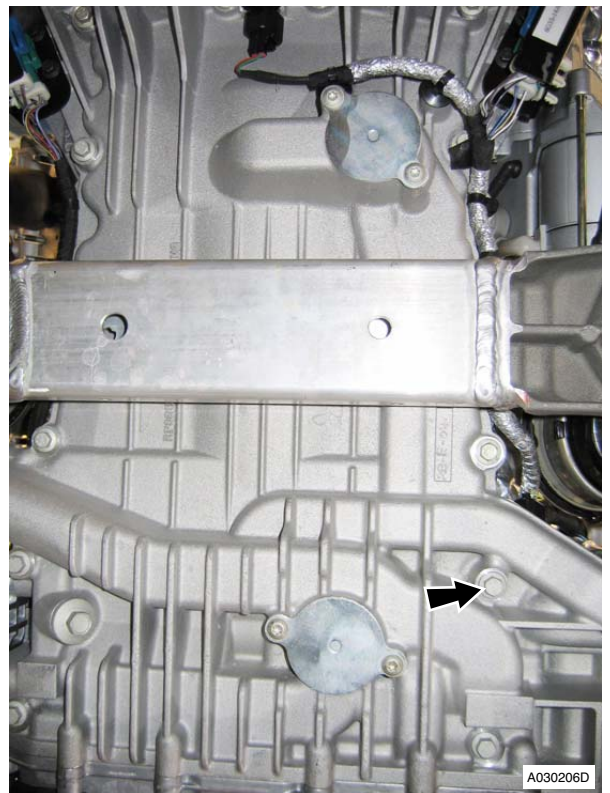

Figure 11
23. Remove bolts (x16) securing sump to engine bedplate (see Figure 11).